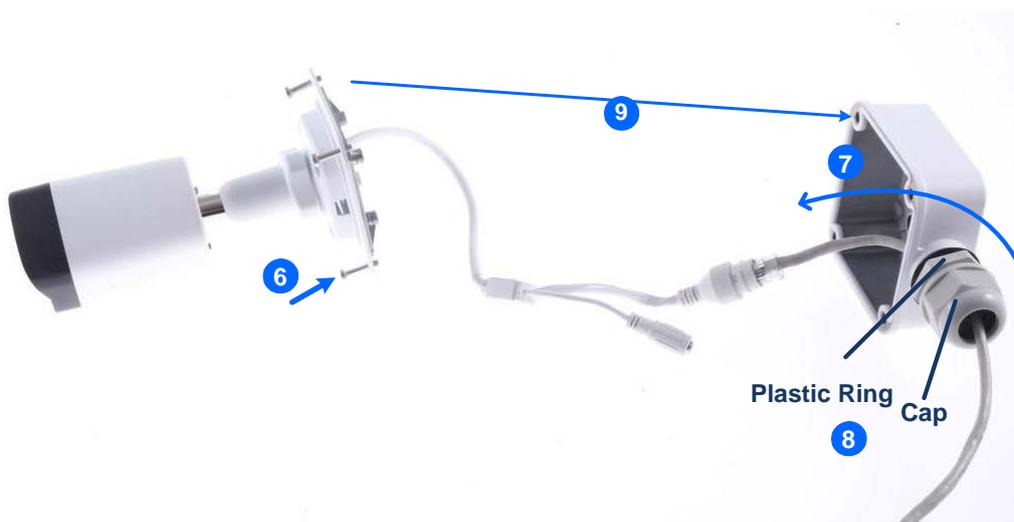

Figure 1-58
6. Secure the camera to the box cover with 4 short screws, as illustrated in No. 6, *Figure 1-58*.
7. Thread the Ethernet cable through the PG21 conduit connector and the wall box, as shown in No. 7, *Figure 1-58*. Then connect the cable to the camera. To waterproof the Ethernet cable, see 1.6 *Waterproofing the Cable*.
8. Rotate the plastic ring to secure the conduit connector to the wall box. Screw in the cap, as shown in No. 8, *Figure 1-58*.
9. Screw the box cover to the wall box, as shown in No. 9, *Figure 1-58*.